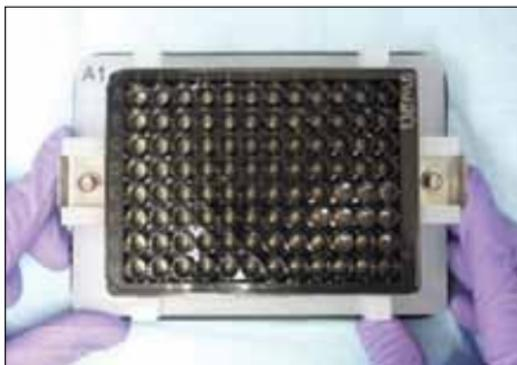

Fig. 3. Securing the plate.
- 2.1 Place the flat bottom plate on the magnet by sliding it under the retaining clips at an angle. Secure the plate with the retaining clips by pushing the retaining clips inward until they click into place. Gently tap the magnet and plate onto the bench top to localize the beads onto the magnets (Figure 3).